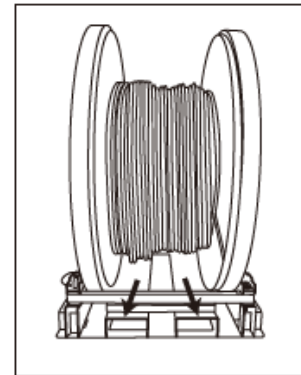
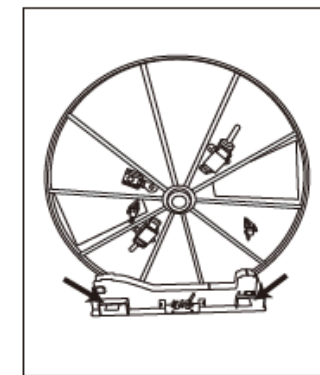

Fig 7
Fig 8
8. SIMpull™ Cradle can be moved by pallet truck (Fig 7) or by forklift (Fig 8) using one of the two sets of fork pockets on the cradle.